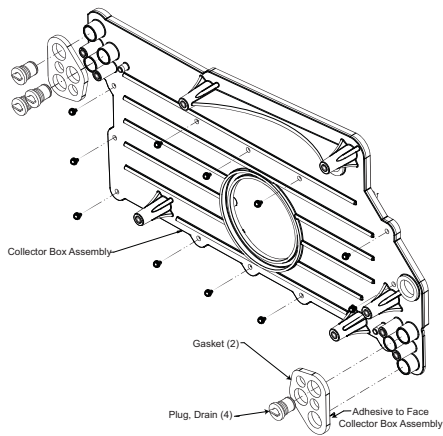

Fig. 2 - Collector Box Removal / Installation
1. Remove the screws that secure the collector box to the heat exchanger cell panel and set aside. See Fig. 2.